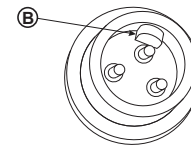

Figure 12. Male Connector
- c. On the corresponding male connector, locate the key tab (B) as shown in Figure 12.